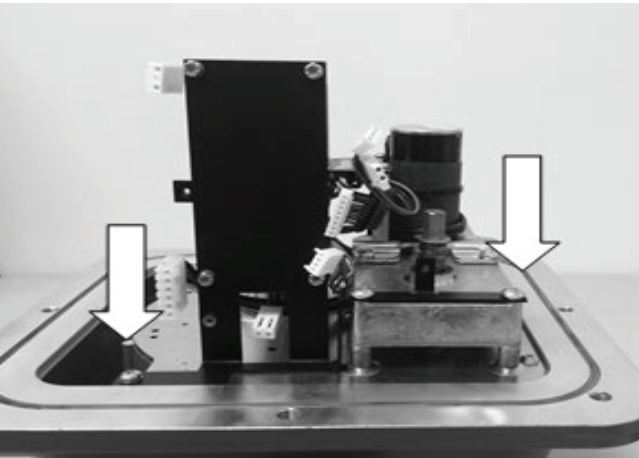

Figure 5.
- 4.7 Remove the two Philips screws that hold the board bracket in place and save them for later use, see Figure 5.